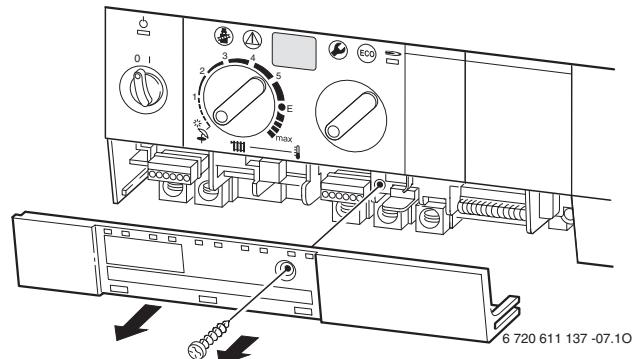

Fig. 27
- Remove screw and slide terminal cover forwards to remove. Refer to fig. 27.